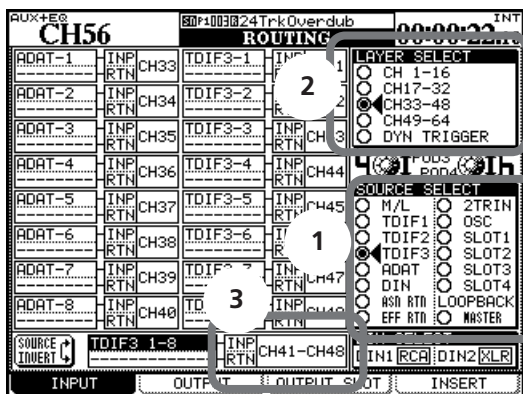

Figure 4.1: Routing inputs
The input sources are as follows, as listed at the lower right of the screen (1 in Figure 4.1, *Routing inputs*):
- 2 Select the destination layer of these input sources by using the POD 3 encoder (2 in Figure 4.1, *Routing inputs*). Choose between:
To set up eight input/destinations at one time, move the cursor down to the batch setup area at the bottom center of the screen (3 in Figure 4.1, *Routing inputs*). The destination is on the right and the source is on the left.